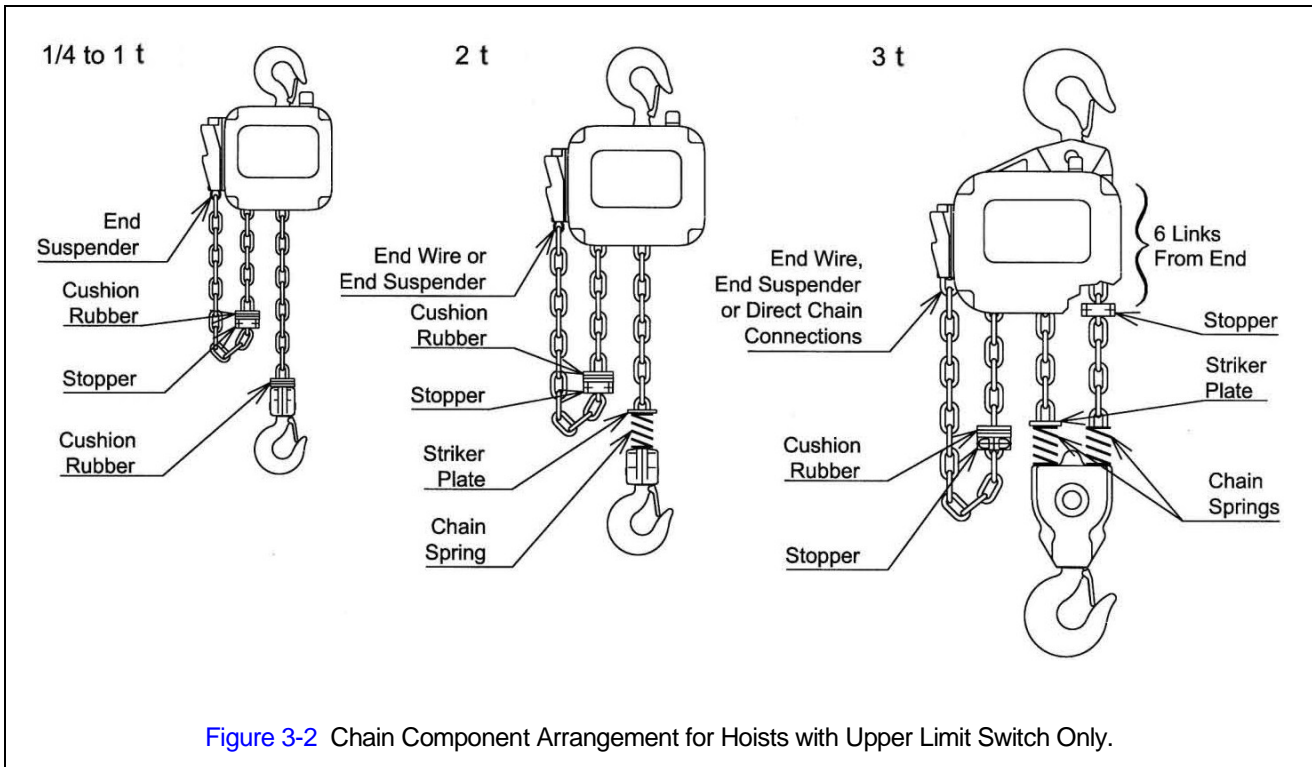

Figure 3-2 Chain Component Arrangement for Hoists with Upper Limit Switch Only.
- 3.2.1 The quantity and location of the chain components including cushion rubbers, chain springs and striker plates depend on the hoist model, capacity and limit switches. Never operate the hoist with incorrect, missing or damaged chain components. Refer to the hoist's nameplate, Table 3-2, and Figures 3-2, 3-3, and 3-4 and ensure that all chain components are in the correct location and properly installed.